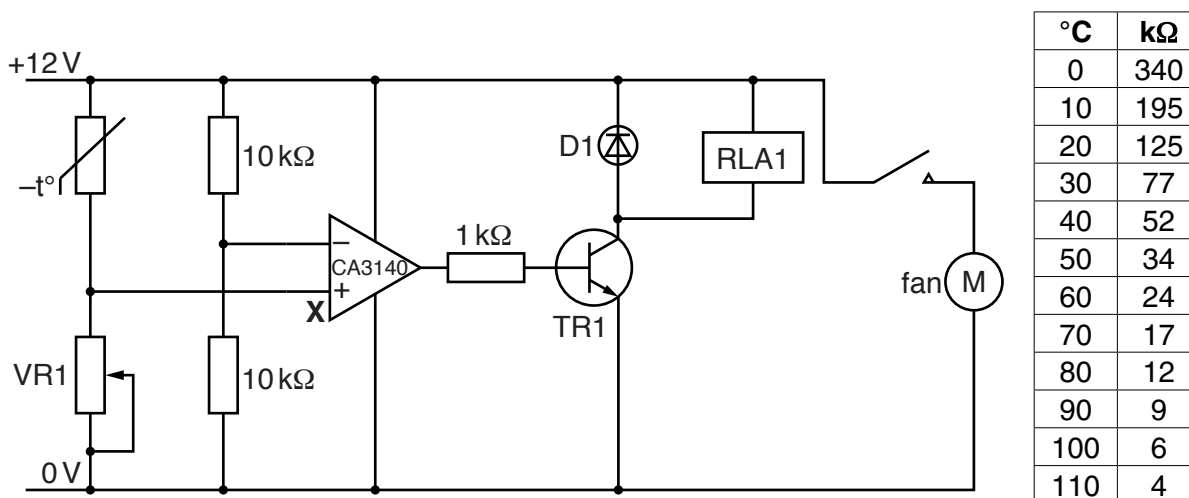
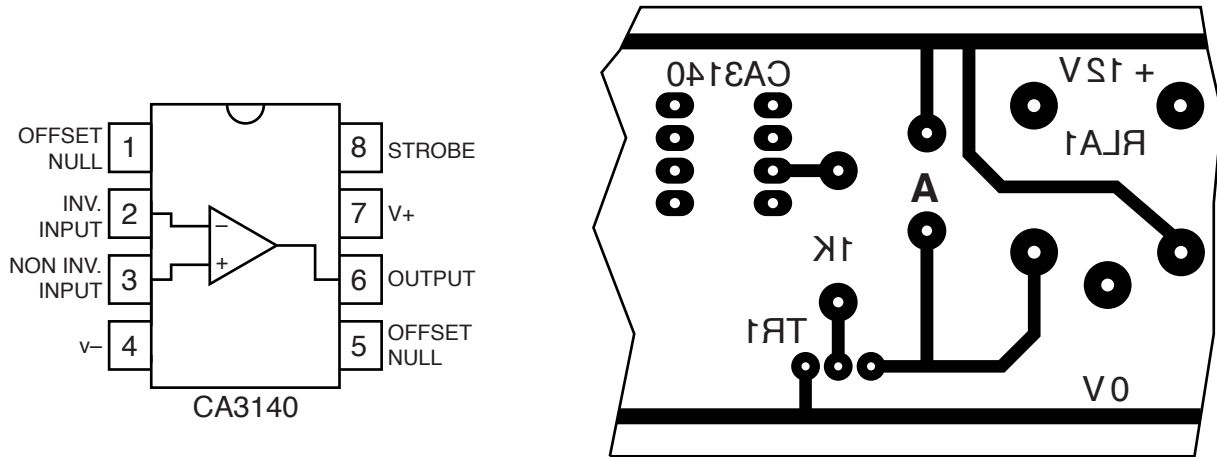

Fig. 22
Fig. 23
(c) Fig. 22 shows the circuit for controlling a car engine cooling fan. A data table for the thermistor showing resistance at a range of temperatures is shown.
- (v) Fig. 23 shows the pin diagram and part of a printed circuit board (PCB) layout for the operational amplifier.
- (vi) Use information from Fig. 22 to give the name of the component that fits in space **A** on the PCB in Fig. 23.